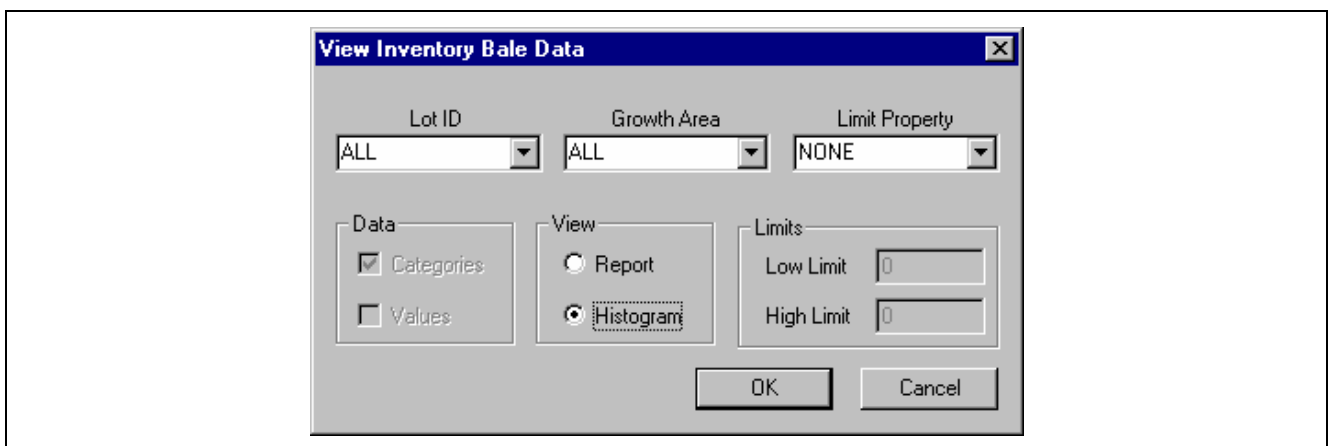

Fig. 6-35 View Inventory Bale Data Screen
11.1 The View Inventory Bale Data window of Figure 11.1 appears. At Lot ID and Growth Area use the down arrows to select ALL and ALL respectively. Likewise NONE should be selected for Limit Property. Under View, select Histogram (Fig. 6-35).
11.5 As seen in the window of Fig. 6-35, data can be viewed by Categories or by Value. Reports can be by Report (listing data) or by Histogram. Entering Low and High Limits allows viewing portions of data after selecting a property in the pull-down menu at Limit Property.